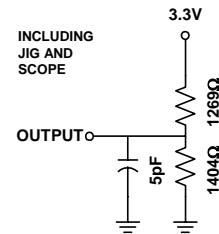

FIGURE 1B
5. Transition is measured  $\pm 500\text{mV}$  from steady state with CL=5pF as shown in Figure 1B. The parameter is guaranteed but not 100% tested.
10. Transition is measured 500mV from steady state with CL = 5pF as shown in Figure 1B. The parameter is guaranteed but not 100% tested.